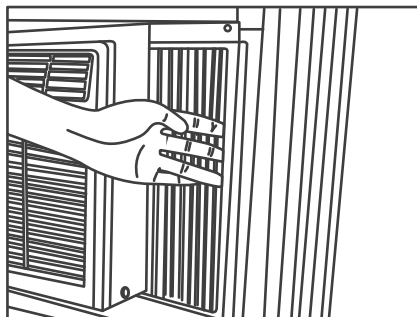

Fig.6
- 3 Extend the side panels out against the window frame (Fig.6).